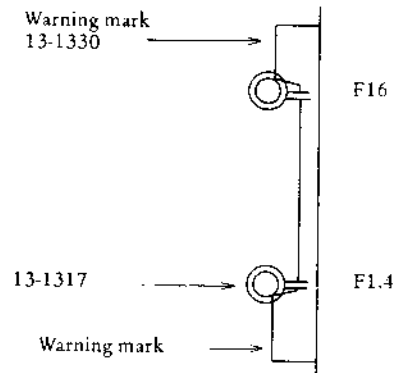

Fig. 24
- 2) At maximum aperture in FD Lens 50mm F 1.4, the inner diameter of the following needle should align the corner of the Warning Mark (13-1330). See Fig. 24.
- 3) When the aperture is stopped down to F16 in FD Lens F 1.4, the Warning Mark corner should be midway between the inside and outside diameters of the Following Needle. See Fig. 24.